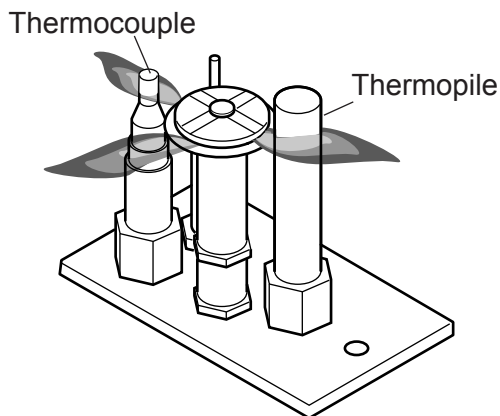

Figure 43 - Before taking unit apart, check pilot flame. Flame should touch thermocouple and thermopile
1. Check pilot flame. Flame should touch approximately $\frac{3}{8}$ " of the top of thermopile and touch top of thermocouple. *See Figure 43.* If not, contact dealer for service.